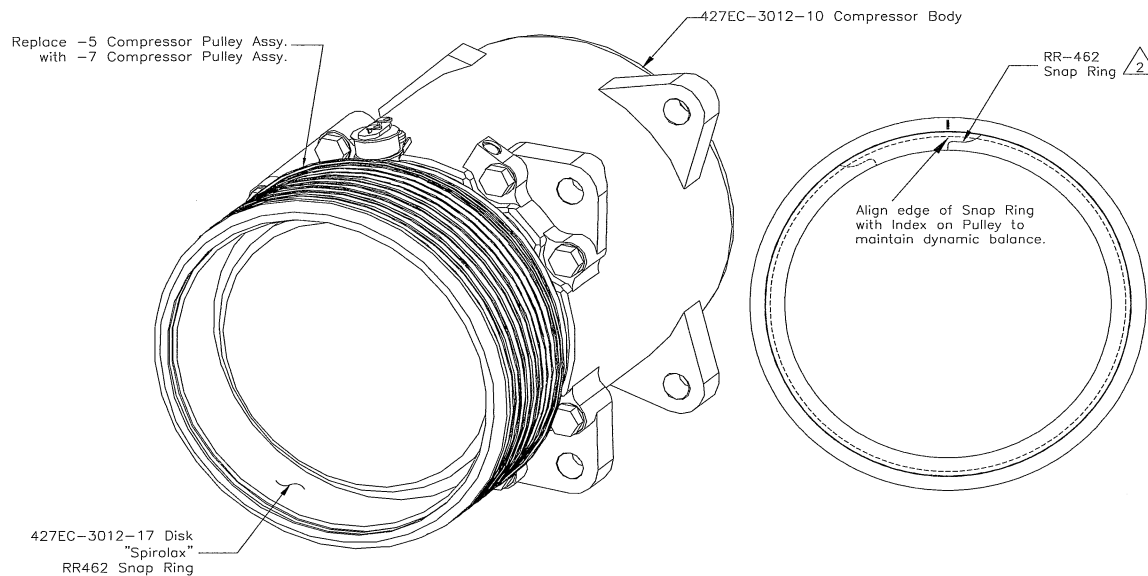

Figure 1.2
4. Remove the RR-462 Snap Ring, and 427EC-3012-17 Disk from the pulley's aft facing surface on the 427EC-3012-5 Compressor Pulley Assy. (See figure 1.2)